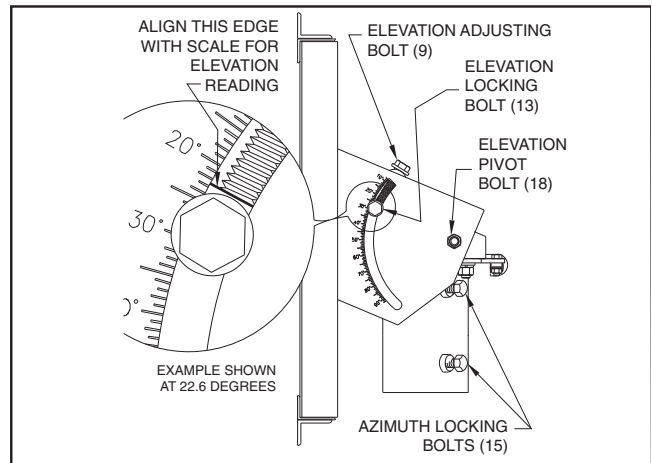

FIG. 2.0 - SETTING ANTENNA ELEVATION
Turn elevation adjustment bolt, Item 9, clock-wise, to decrease elevation, and counterclockwise to increase elevation. Align the edge of bracket with the appropriate mark at the desired elevation reading (See Figure 2.0). This will be an approximate setting. Optimum setting will be achieved when Fine Tuning. Refer to Figure 2.3.
Snug tighten hex bolt/nut in curved slots (13) and pivot bolts (18) (refer to Figure 2.0). Use a signal strength measuring device for final adjustments to obtain maximum antenna performance. Alternate between elevation and azimuth fine tuning to reach maximum signal strength, until no improvement can be detected. Top plate locking bolts (18), 4 places, should be torqued to 6-8 ft-lbs (8-11 N-m). See Figure 2.3. Turn the azimuth adjusting nuts (3) clockwise or counter clockwise for azimuth fine tuning. Tighten and torque all hardware (refer to Torque Chart on Page 2).
Loosen two feed horn clamp bolts (26) and turn feed clockwise or counterclockwise, depending on being east or west of the satellite as shown on Chart 3. Align marks on the horn clamp and appropriate mark on the horn scale. Polarization chart assumes antenna system polarization is Tx vertical and satellite vertical Pol is perpendicular to plane of geostationary arc. For horizontal Tx of antenna, feed must be rotated 90° from values shown. Starting point for polarization adjustment is 0°, as shown in figure 2.0. Tighten and torque clamp bolts to 4 ft-lbs (5.4 N-m), after setting.